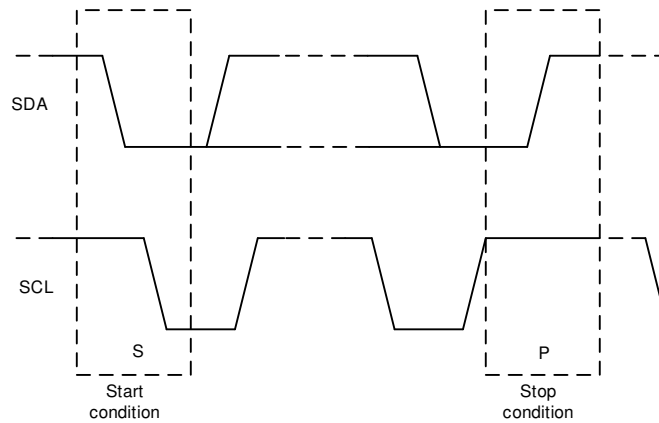

图 60. Start and Stop Conditions
1. The master initiates data transfer by generating a start condition. The start condition is when a high to-low transition occurs on the SDA line while SCL is high, as shown in 图 60. All I2C-compatible devices recognize a start condition.
4. To signal the end of the data transfer, the master generates a stop condition by pulling the SDA line from low to high while the SCL line is high (see 图 60). This action releases the bus and stops the communication link with the addressed slave. All I2C-compatible devices recognize the stop condition. Upon receipt of a stop condition, the bus is released, and all slave devices then wait for a start condition followed by a matching address.